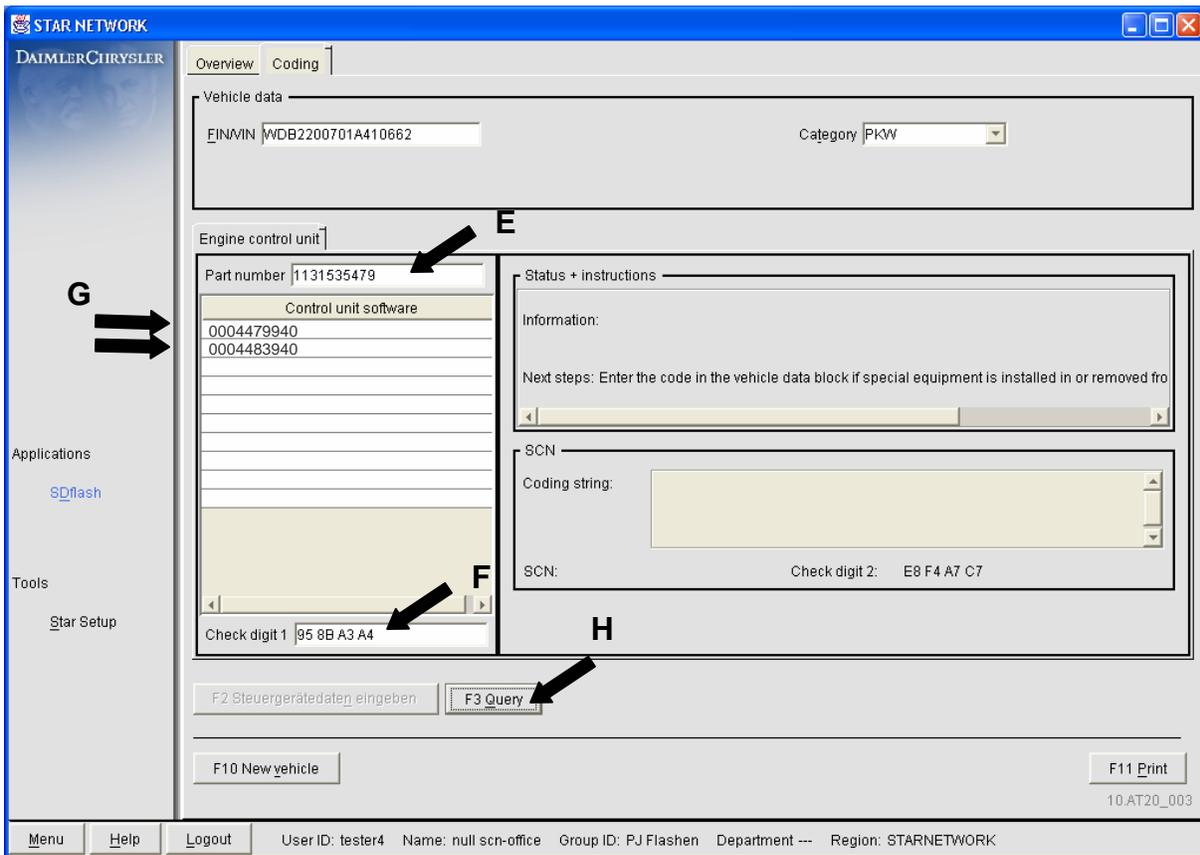

Figure 10
(E) Enter the Part Number or MB Object Number of the control unit. (Figure 10)
(F) Enter the Check Digit [1]. (Figure 10)
3. Generate SCN Coding Information. (Figure 10)